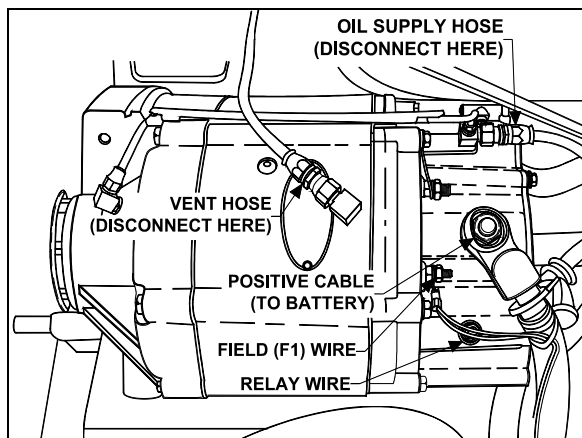
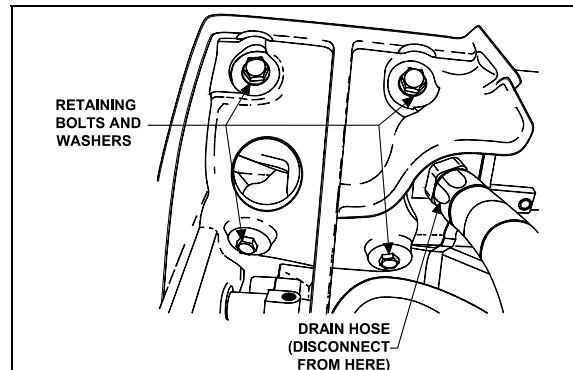

FIGURE 26: ALTERNATOR (HOSES AND WIRES) 06073
FIGURE 27: ALTERNATOR RETAINING BOLTS AND WASHERS 06350
4. Scratch off protective sealer from electrical connections (relay, field and positive terminals). Refer to Figure 26.
5. Disconnect wire #25 from the relay terminal, wire #107 from the field "F1" terminal and disconnect battery cable from the positive "+" terminal on the diode end cover. Tag wires removed to ease identification at time of installation. Refer to Figure 26.
6. Disconnect oil supply line and vent hose from top of alternator (Figure 26) and tape lines to prevent entry of foreign matter. Disconnect oil drain hose from bottom of alternator (Figure 27) and tape line to prevent entry of foreign matter.
7. Remove the four bolts and lock washer retaining alternator (Figure 27).